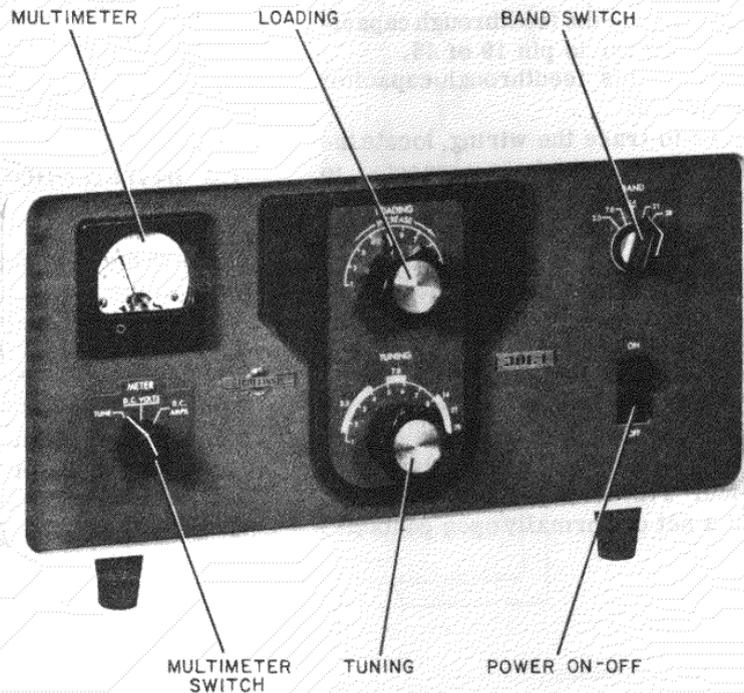

Figure 2-1. 30L-1 Operating Controls
This manual describes Amplifier, RF AM-3979/FRC-93 (fig. 2-1) and contains instructions for installation, operation and principles of operation, service instructions for direct support, general support, and depot maintenance. Instructions for cleaning, inspection, and operator and organizational maintenance of Amplifier, RF AM-3979/FRC-93 are also included. This is a first-edition manual containing preliminary and unreviewed information compiled by the manufacturer of the equipment. Judicious caution should be exercised in using the information in this manual until it is replaced by a revised edition. Sections VIII and IX have been added to include the preventive maintenance checks and services.
b. Make sure the ON-OFF switch in the 30L-1 is in the OFF position as shown in figure 2-1.